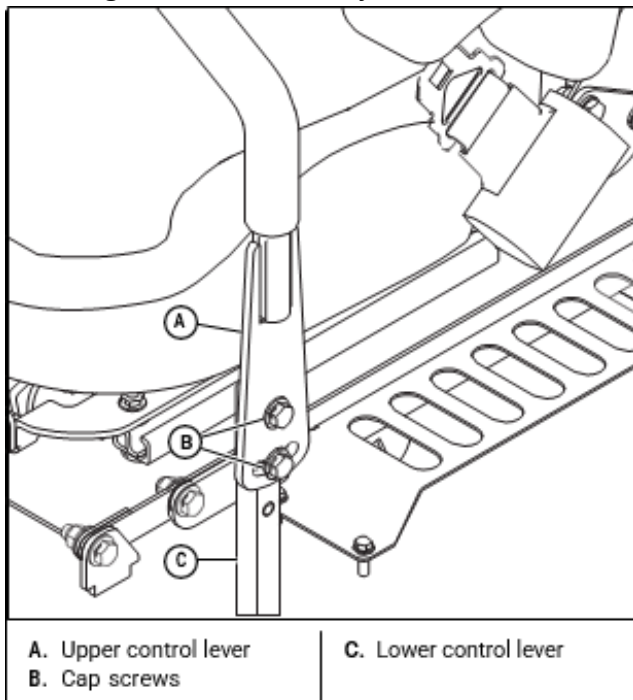

Figure 20
- A. To pivot the upper control levers forward or rearward, loosen the cap screws that attach the upper control lever to the lower lever. Then, pivot the upper control lever. Tighten the cap screws. [Figure 20]